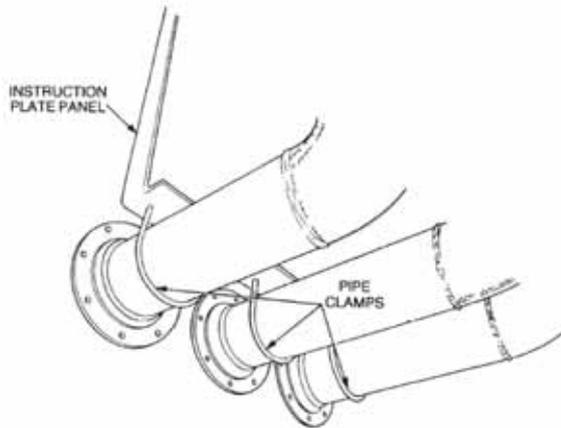

Figure 22 Pipe Clamp Location
- f. Remove the three pipe clamps securing the outlet pipes to the bottom of the instruction plate panel (Figure 22).